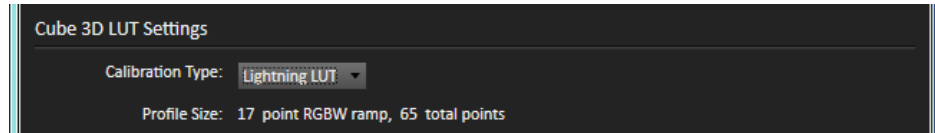

Figure 5: The Lightning LUT process uses an innovative conversion matrix algorithm to produce a high quality calibration LUT in just five minutes or less.
1. On the *AutoCal Setup* dialog, under *Calibration Type*, select “Lightning LUT” (Figure 5).